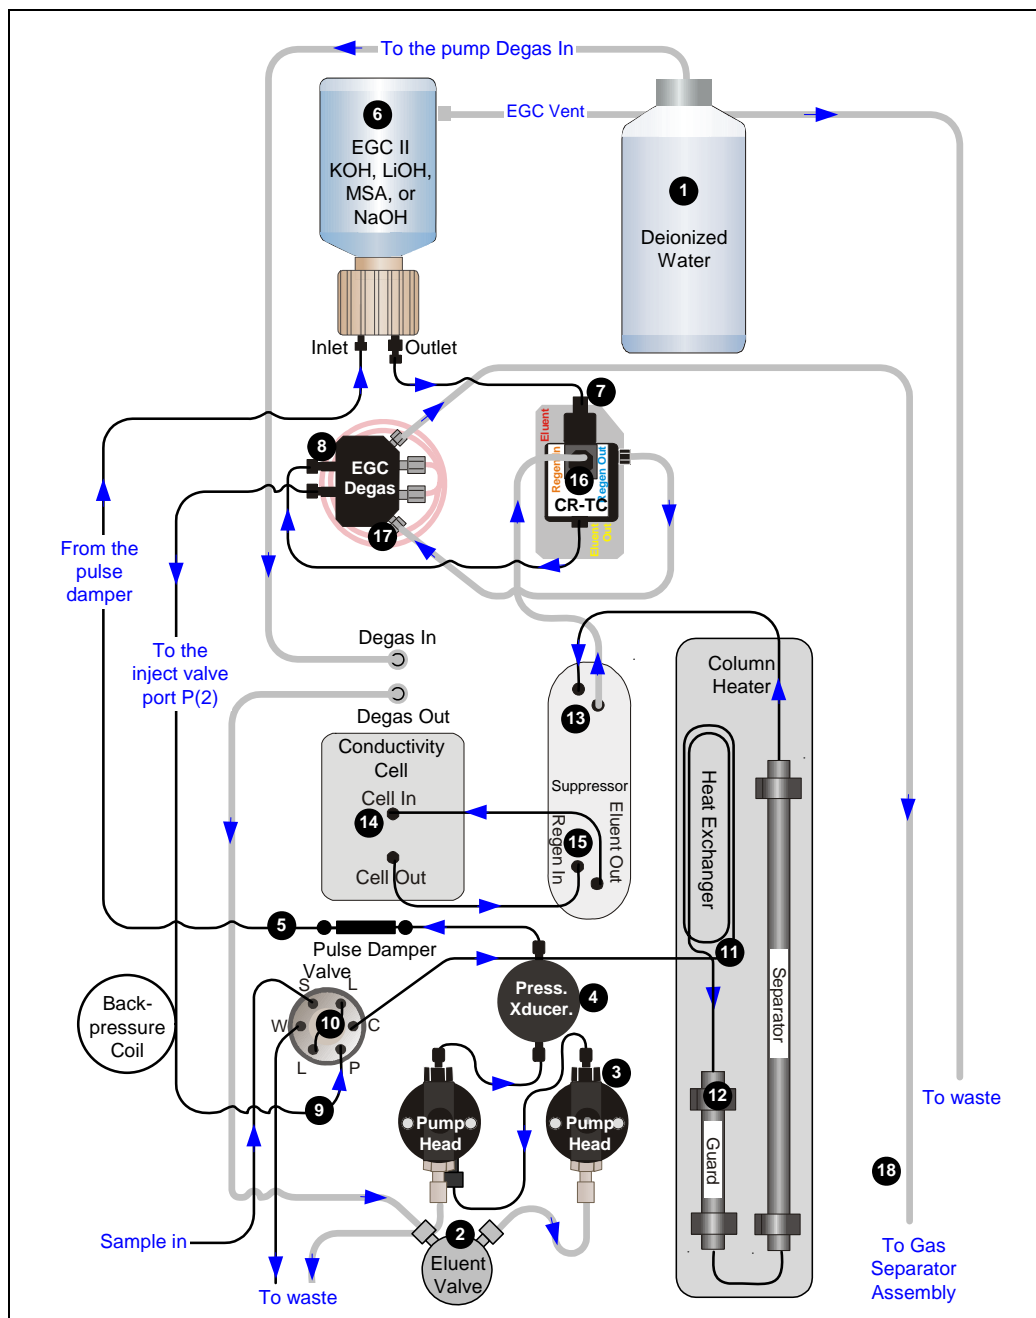

Figure 2-10. ICS-2100 Flow Schematic: KOH, LiOH, MSA, or NaOH Eluent Generation
- Figure 2-10 illustrates the liquid flow path when the components required for producing KOH, LiOH, MSA, or NaOH eluent are installed. The required components include the corresponding type of EluGen cartridge and a CR-TC.
Refer to Figure 2-10 for the flow path number locations.